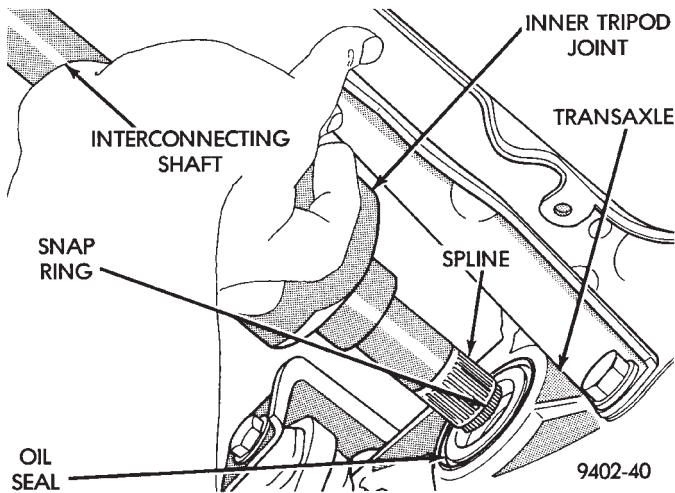
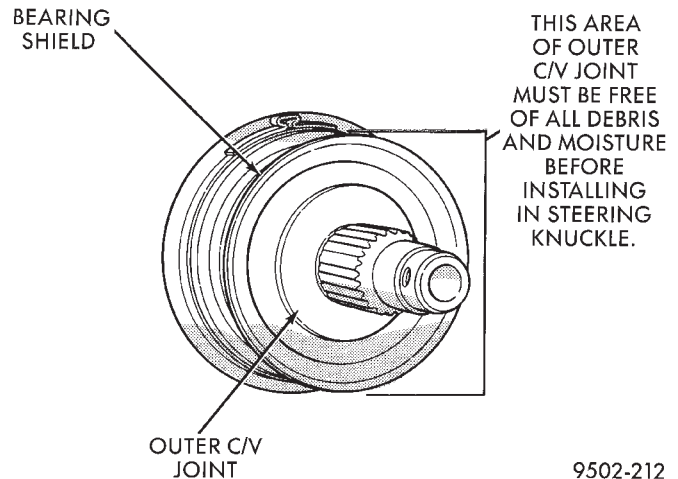

Fig. 14 Tripod Joint Removal from Transaxle
Fig. 15 Outer C/V Joint Inspection
(16) Hold inner tripod joint and interconnecting shaft of driveshaft assembly. Remove inner tripod joint from transaxle, by pulling it straight out of transaxle side gear and transaxle oil seal (Fig. 14). **When removing tripod joint, do not let spline or snap ring drag across sealing lip of the transaxle to tripod joint oil seal.**
(1) Thoroughly clean spline and oil seal sealing surface, on tripod joint. Lightly lubricate oil seal sealing surface on tripod joint with fresh clean transmission lubricant.
(2) Holding driveshaft assembly by tripod joint and interconnecting shaft, install tripod joint into transaxle side gear as far as possible by hand (Fig. 14).
(3) Grasp inner tripod joint and interconnecting shaft. Forcefully push the tripod joint into side gear of transaxle, until snap ring is engaged with transaxle side gear. **Test that snap ring is fully engaged with side gear by attempting to remove tripod joint from transaxle by hand. If snap ring is fully engaged with side gear, tripod joint will not be removable by hand.**
(4) Clean all debris and moisture out of steering knuckle, in the area where outer C/V joint will be installed into steering knuckle.
(5) Ensure that front of outer C/V joint which fits against the face of the hub and bearing is free of debris and moisture before installing outer C/V joint into hub and bearing assembly (Fig. 15).